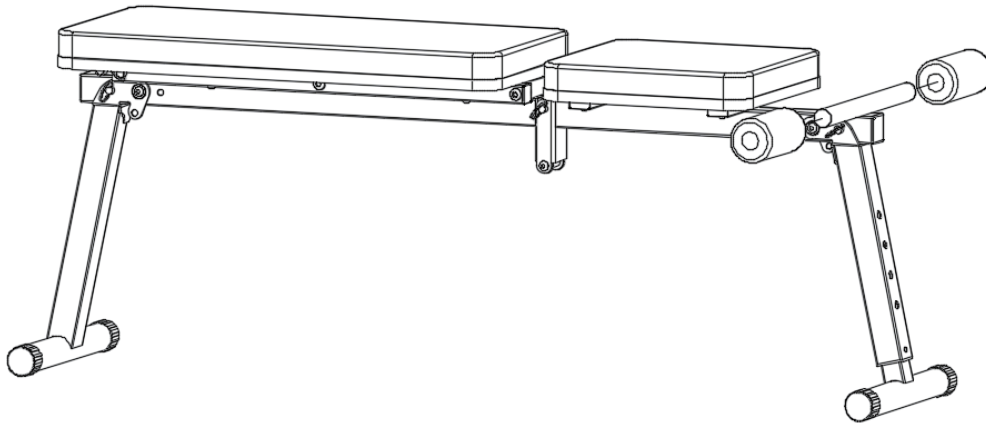

Figure 4
1. Take (2) foam and put it on the round tube as shown in Figure 4